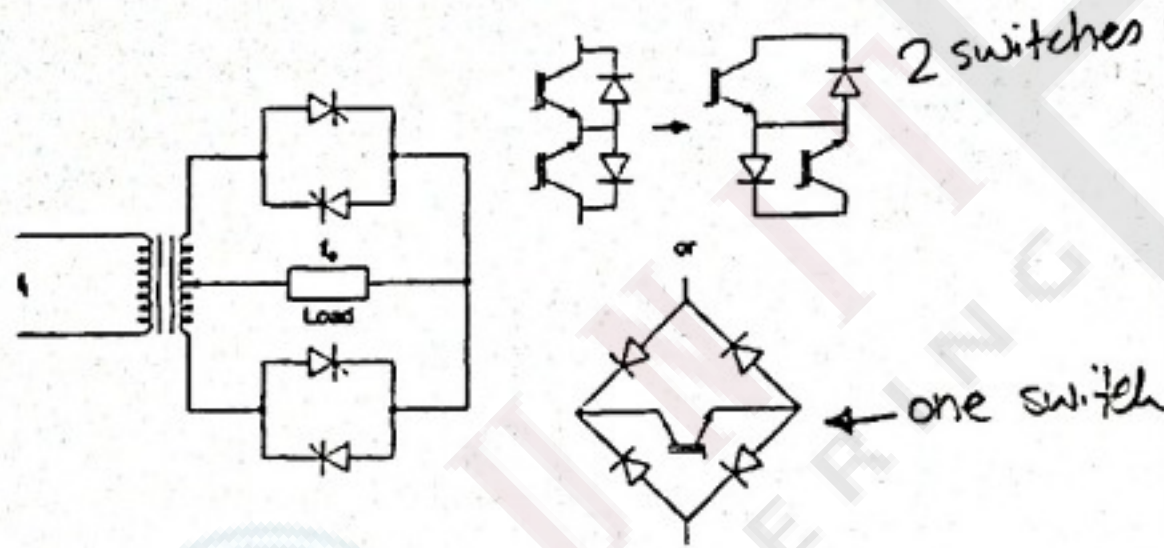

Figure 4.3 Single-phase-to-single-phase cycloconverter circuit showing ac switch configurations
**Figure 4.4** Fabricated waveforms for Figure 4.3 (a) Integral half-cycle control, (b) Waveform with firing angle modulation, (c) Waveform with step-up cycloconversion